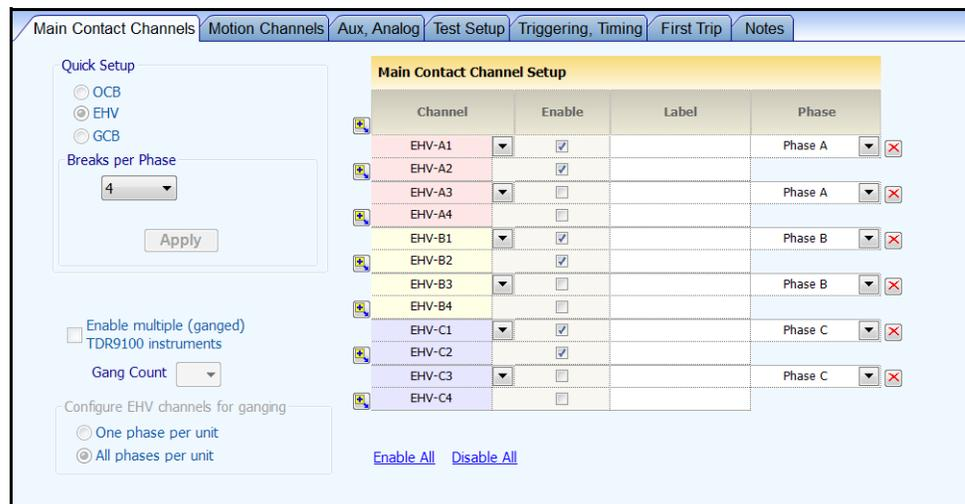

Figure 19 EHV Settings on the Main Contact Channels Tab
- Main Contact Channels tab of the Test Plan page (Figure 19). See page 56 for configuration.